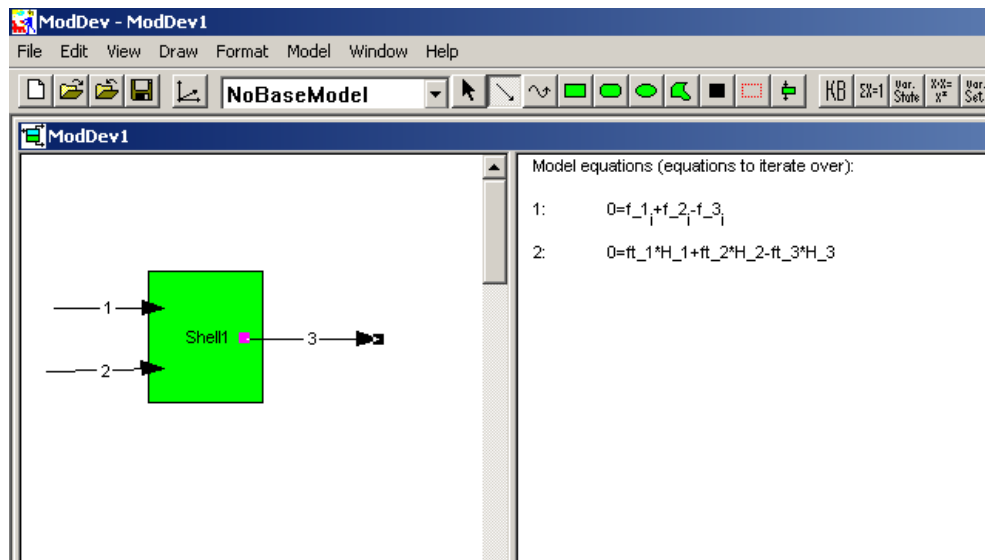

Figure 3: Describing of the process.
Step1: Describe the process through a flow diagram - Draw a shell connected by the inlet streams and one outlet stream. This is the necessary description of the shell (tank), streams (inlet/outlet) and connection (shell-stream). As the shells and streams are drawn, the default component mass balance and energy balance equations come on the right half of the screen (fig. 3).